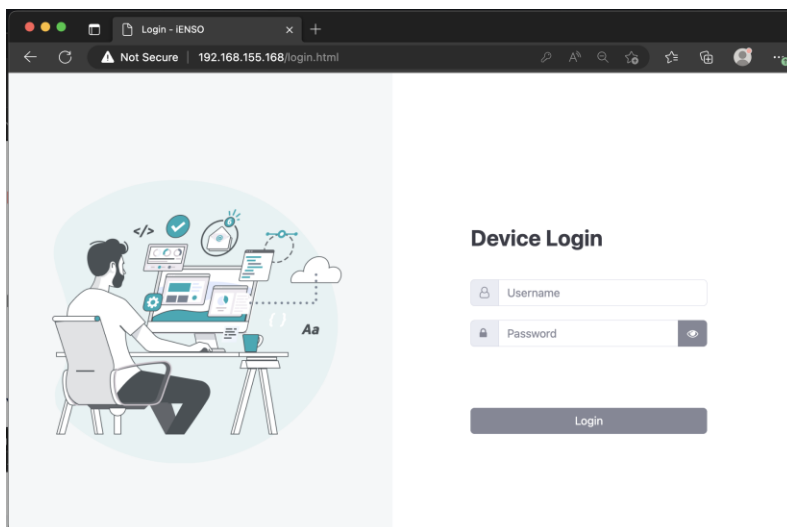

Fig 4.1
2. Open browser and copy over the IP address to access the login page (See fig. 4.1)